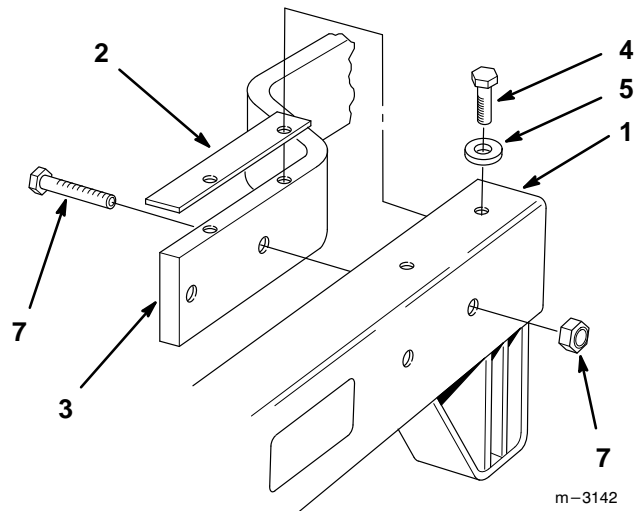

Figure 2
1. Align the carrier frame and shim holes with the mounting holes in the traction unit frame (Fig. 2).
2. Fasten each side of the carrier frame to the traction unit with (2) 3/8-16 x 7/8" (22 mm) bolts and washers, down from the top, and (2) 3/8-19 x 1-3/4" (44 mm) bolts and 3/8-16 locknuts, through the side (Fig. 2).
3. Torque the mounting screws to 240-320 in-lb (27-36 N•m) (Fig. 2).